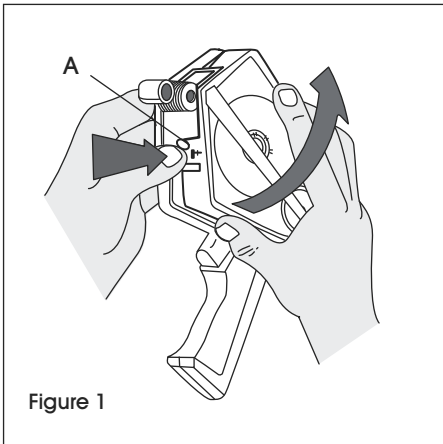

Figure 1
1. Depress (A) and lift to open cover. (See Figure 1)